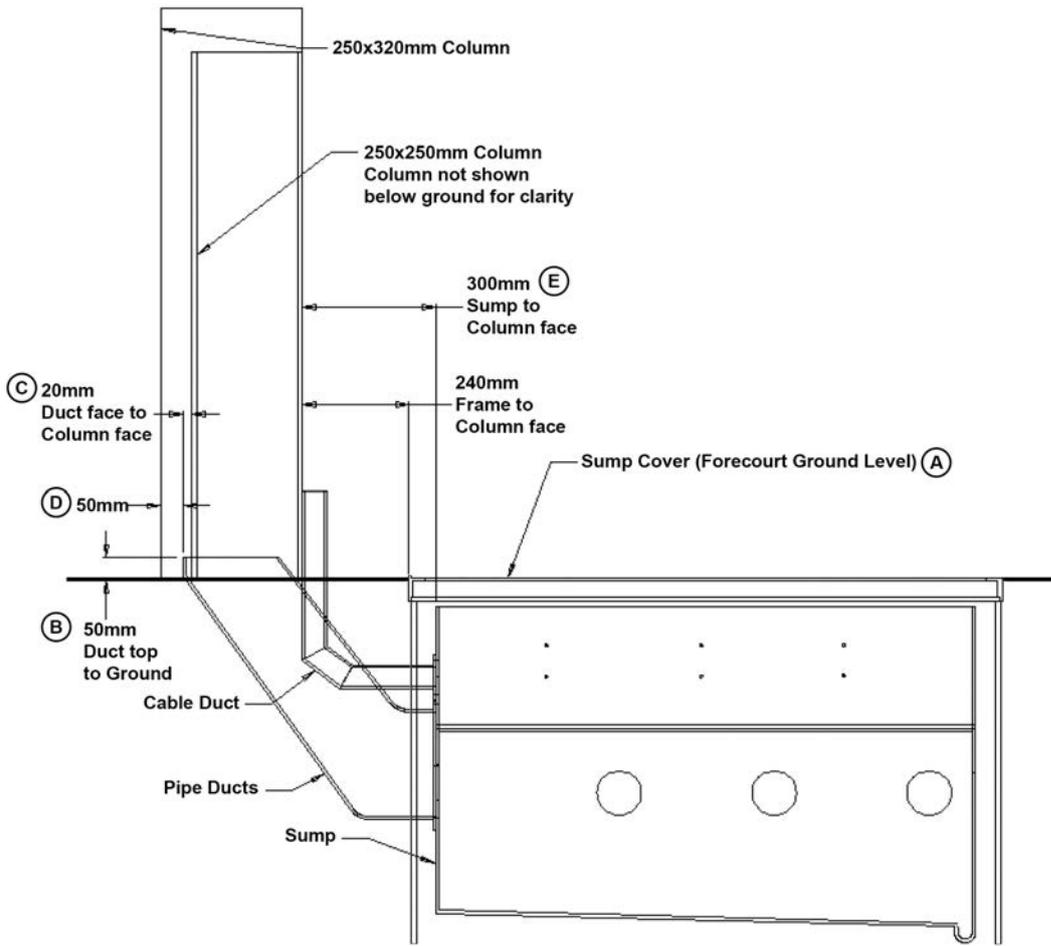
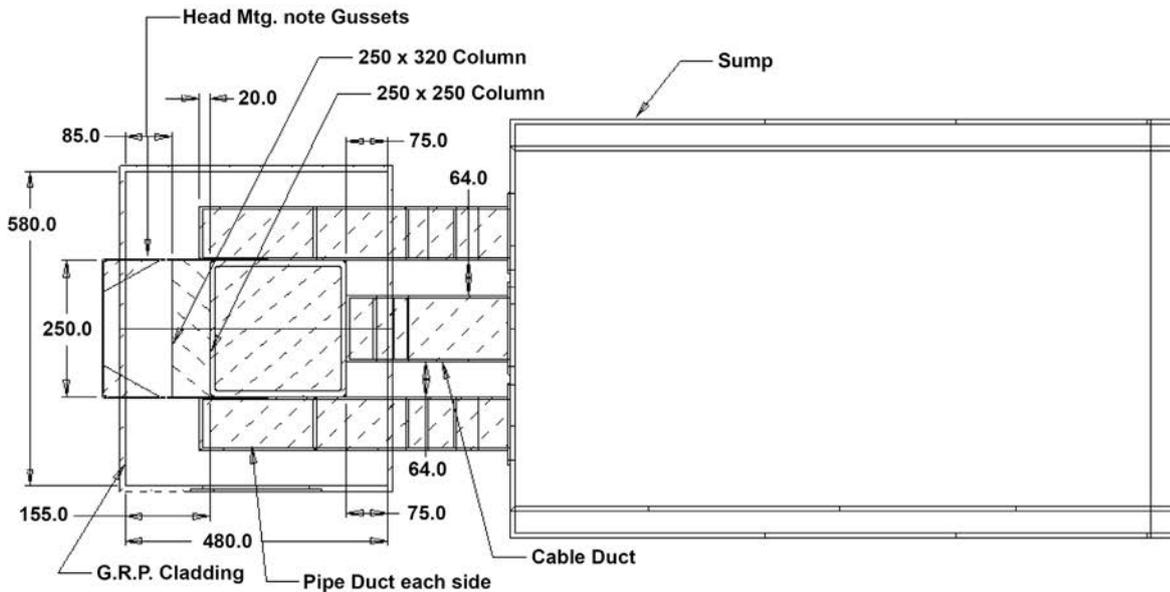

Figure 3. Apollo Underground Sump Front View
Figure 6. Apollo Sump/Column Position Top View
- Establish the proposed/final forecourt ground level (A); mark this point on the site column.
- Install the sump box enclosure into the correct position below the proposed ground level as shown in Figure 3.
- Ensure the pipe delivery ducts protrude 50mm above ground level (B) and 20mm (C) proud of column for a 250 x 250mm column. For a 250 x 320mm column, the distance between the end of the protruding delivery ducts and the external side of the column should be 50mm (D).
- Check the end face of the enclosure is 300mm (E) out from the column.
- Re-check the sump position in relation to the column and the forecourt surface as per Figure 3 and Figure 6.